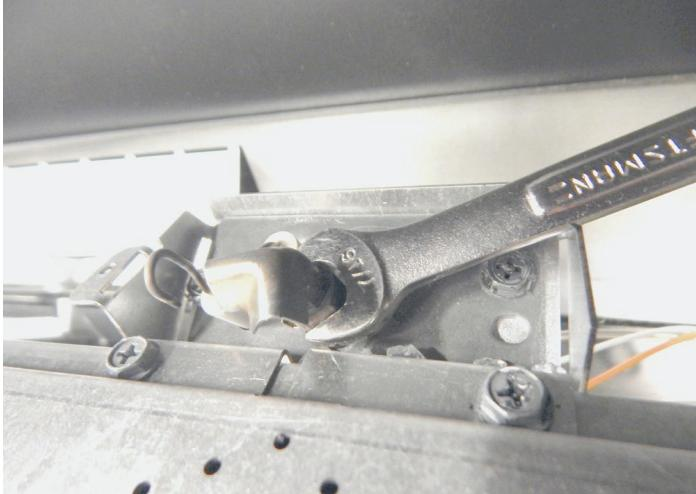
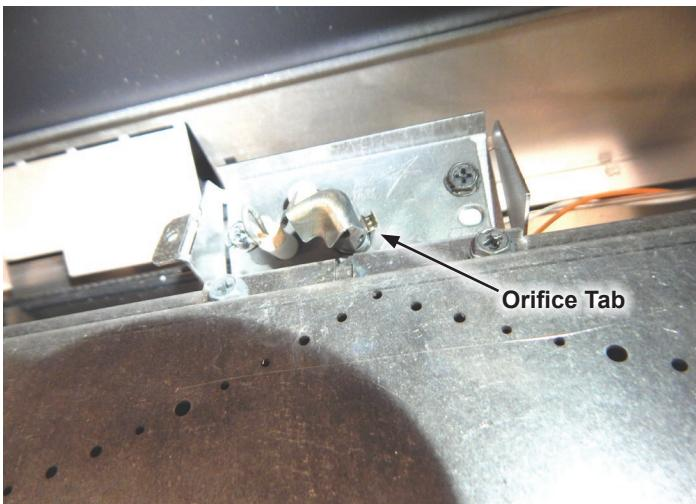

Figure 9
Figure 10
16. Re-install the (4) 5/16" Hex screws removed in step 10 above to secure the Burner assembly.
17. To convert the pilot from Natural gas to Propane gas, loosen the pilot hood assembly slightly using a 7/16" wrench. **See Figure 9.** Just below the pilot hood and nut is a small orifice tab that slides sideways. **See Figure 10.** A small screwdriver may be used to gently move the small orifice tab over to change the gas type. Do not force. The orifice tab has gas types stamped on the tab. Make sure the type of gas being converted to is indicated on the tab, then re-tighten the Pilot hood so that the hood flame directions point forward to the burner, and left to the sensor. Do not overtighten. **See Figure 9.**